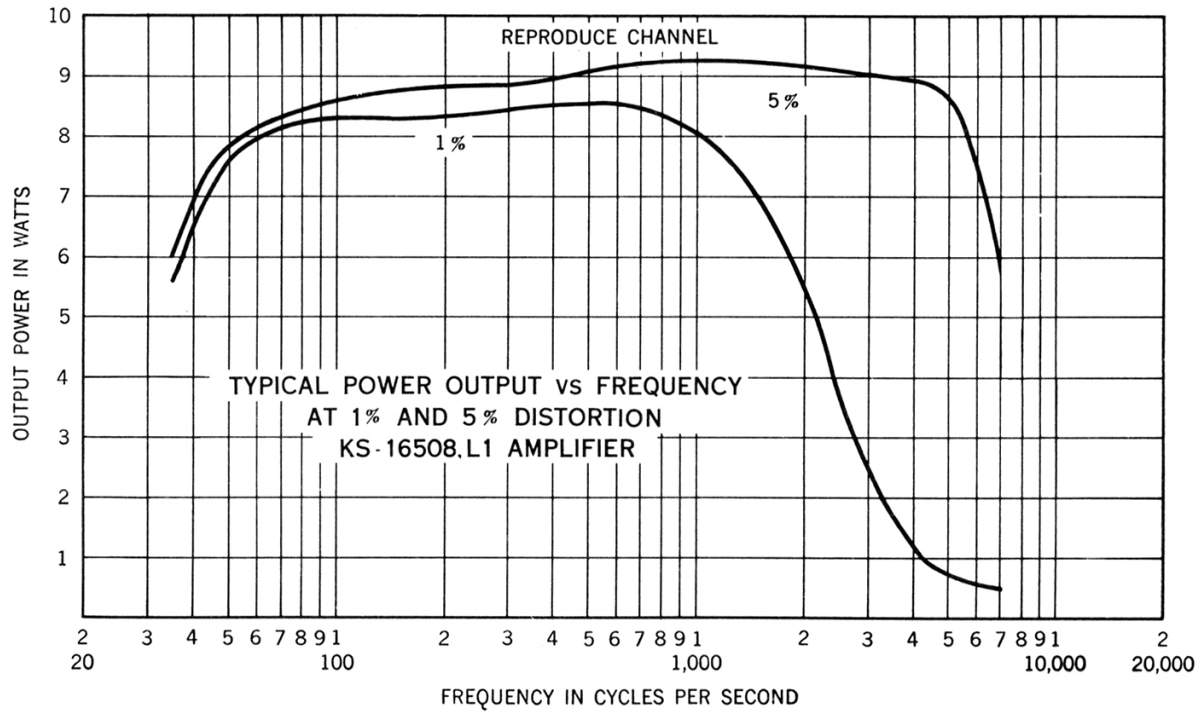

Fig. 5 – Output Power vs. Frequency
7.02 Fig. 5 shows the output power versus frequency characteristics of the reproduce channel for 1% and 5% distortion.